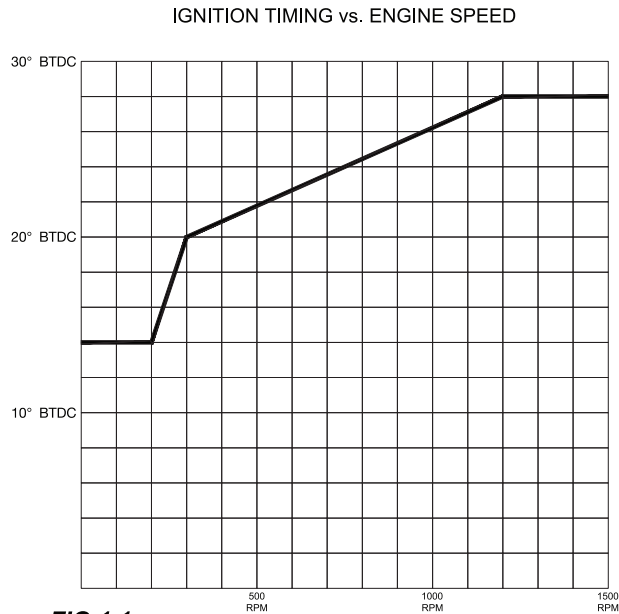
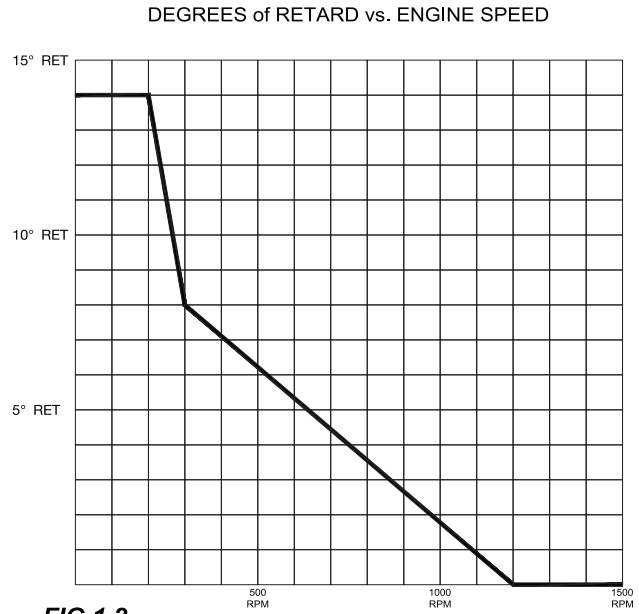

FIG 1.1
FIG 1.2
4.1 *Ignition Timing vs. Engine Speed* – For this example, it is assumed that the appropriate Ignition Timing vs. Engine Speed function has been defined as show in Figure 1.1. From this it can be determined that the most advanced ignition timing value desired is 28° before top dead center (BTDC) – thus 28° BTDC equals 0° of ignition retard (RET). Continuing this process of extrapolating the desired ignition timing vs. engine speed breakpoints it is possible to express the desired ignition timing in terms of °RET. This process generates the graph shown in Figure 1.2. Once the function is expressed in terms of °RET it is possible to program this behavior into the CPU-95 using the “RPM Map” function of the terminal program – see Figure 1.3.